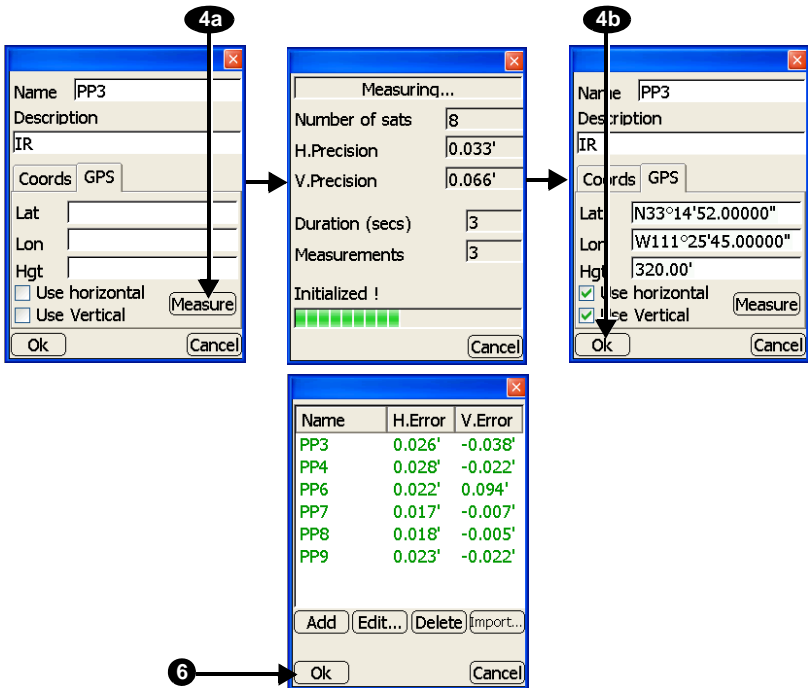

Figure B-12. Localize Control Points
4. Enable “Use horizontal” and “Use Vertical” and press **Measure**. Press **Ok** to save the measurement (Figure B-12).